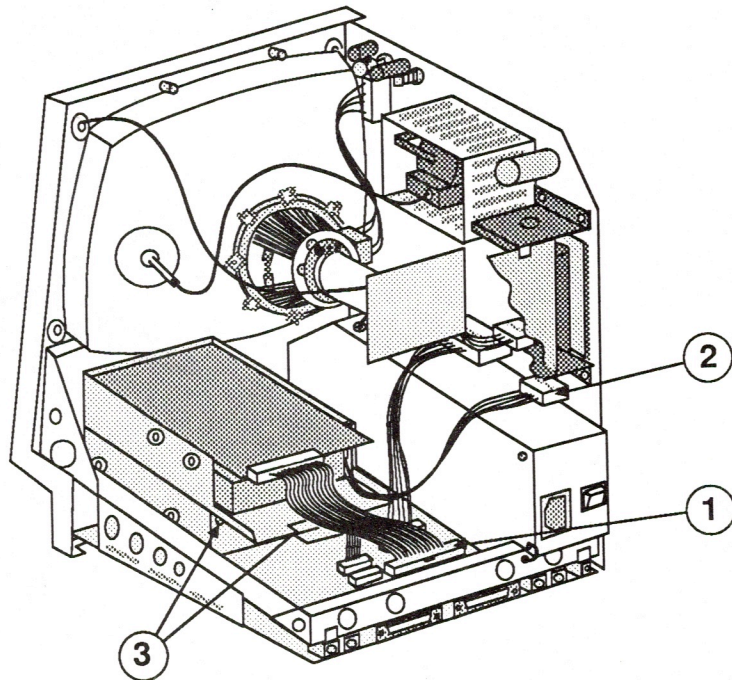

FIGURE 22
3. Disconnect the hard disk drive cable from the main logic board (Figure 22, #1).
4. Disconnect the hard disk drive power cable from the analog board (Figure 22, #2).
5. Remove the two Phillips screws that secure the hard disk drive housing to the lower drive housing (Figure 22, #3), and lift out the hard disk assembly.